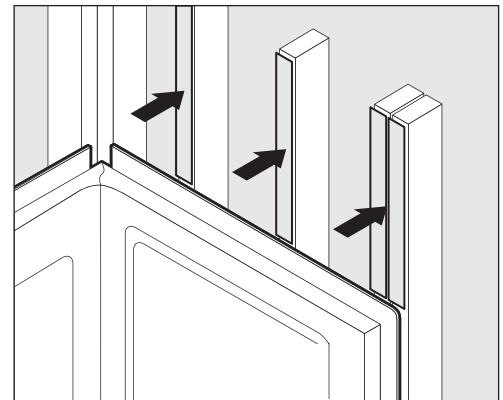

FIGURE 7. Shim studs.
- Using lattice strips or 1/4" luan, shim studs so that drywall will overlap nail flange smoothly. (If your wall extends past the shown alcove, it may be necessary to shim these studs.) **(Fig. 7)**